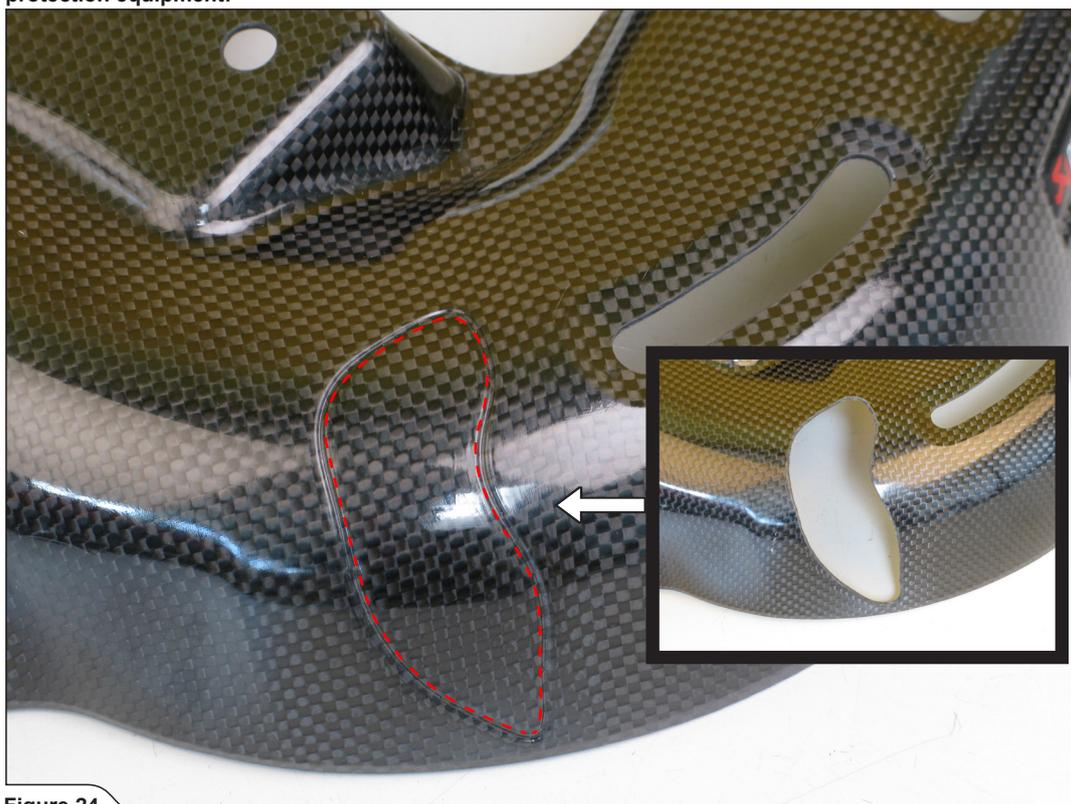

Figure 24
4. For use of passengers foot rests only: carefully cut/grind the impressed part of the carbon fiber heat shield, as shown (Figure 24).